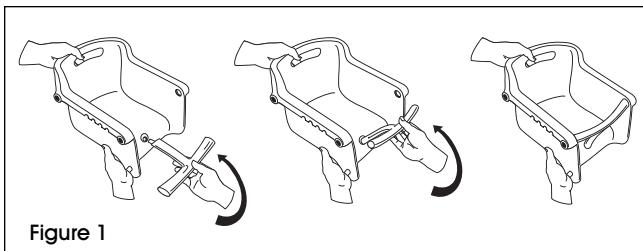

Figure 1
1. Insert crossbar into the opening in the front of the seat. Raise the crossbar and insert into openings on the sides of the seat. (See Figure 1)